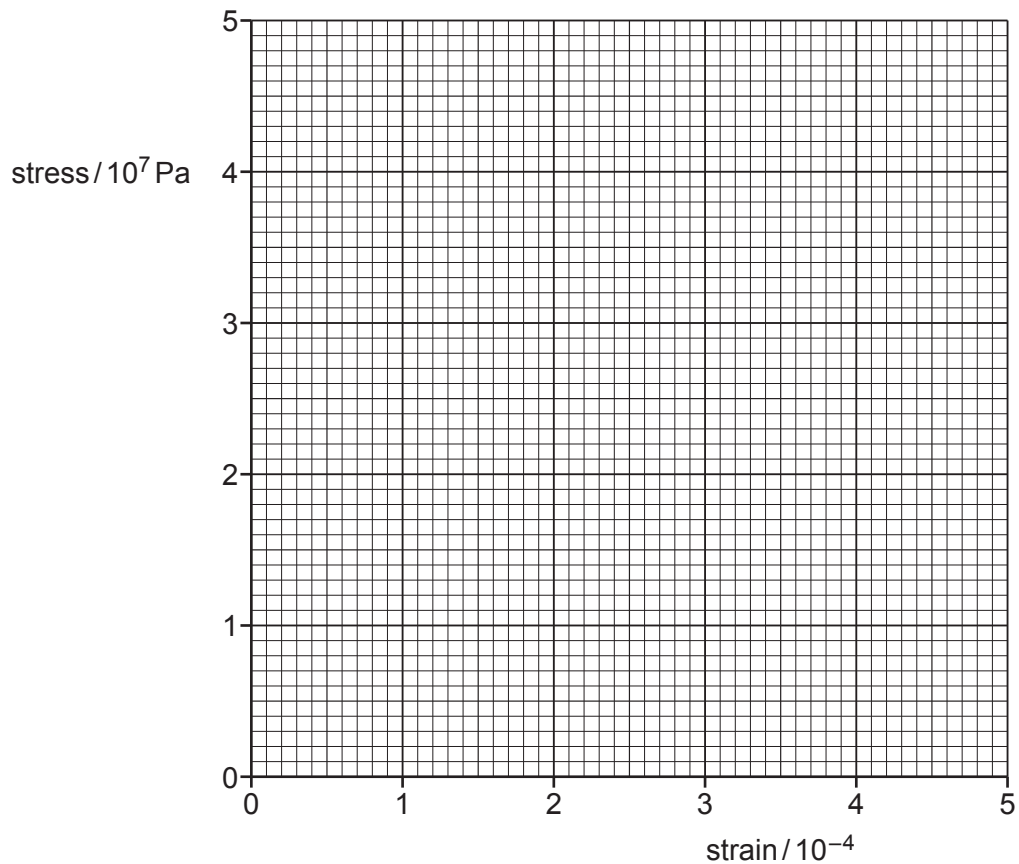

Fig. 4.1
- (ii) On Fig. 4.1, draw a line to show how the stress varies with the strain for the wire up to its limit of proportionality.